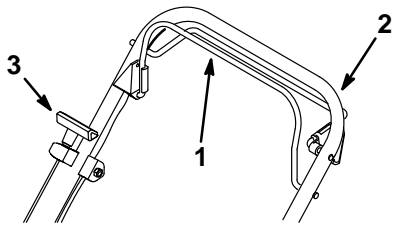

Figure 34
11. Hold the blade control bail against the upper handle (Fig. 34) and pull the starter rope several times to blow out loose carbon.